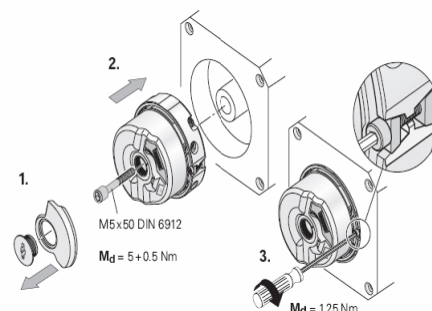

Fig.9 Assembling of encoder
- B. Turn the encoder (if rotation is not smooth, check whether the bolt is installed inaccurately), and then use Allen wrench to screw up the tightening bolt of the encoder with the torque of  $M_d=1.25\text{ Nm}$ . It is required that the tightening torque  $M_d= 1.25\text{Nm}-0.2\text{Nm}$  so that the external part of the encoder cannot be turned manually, as shown in Fig.9.